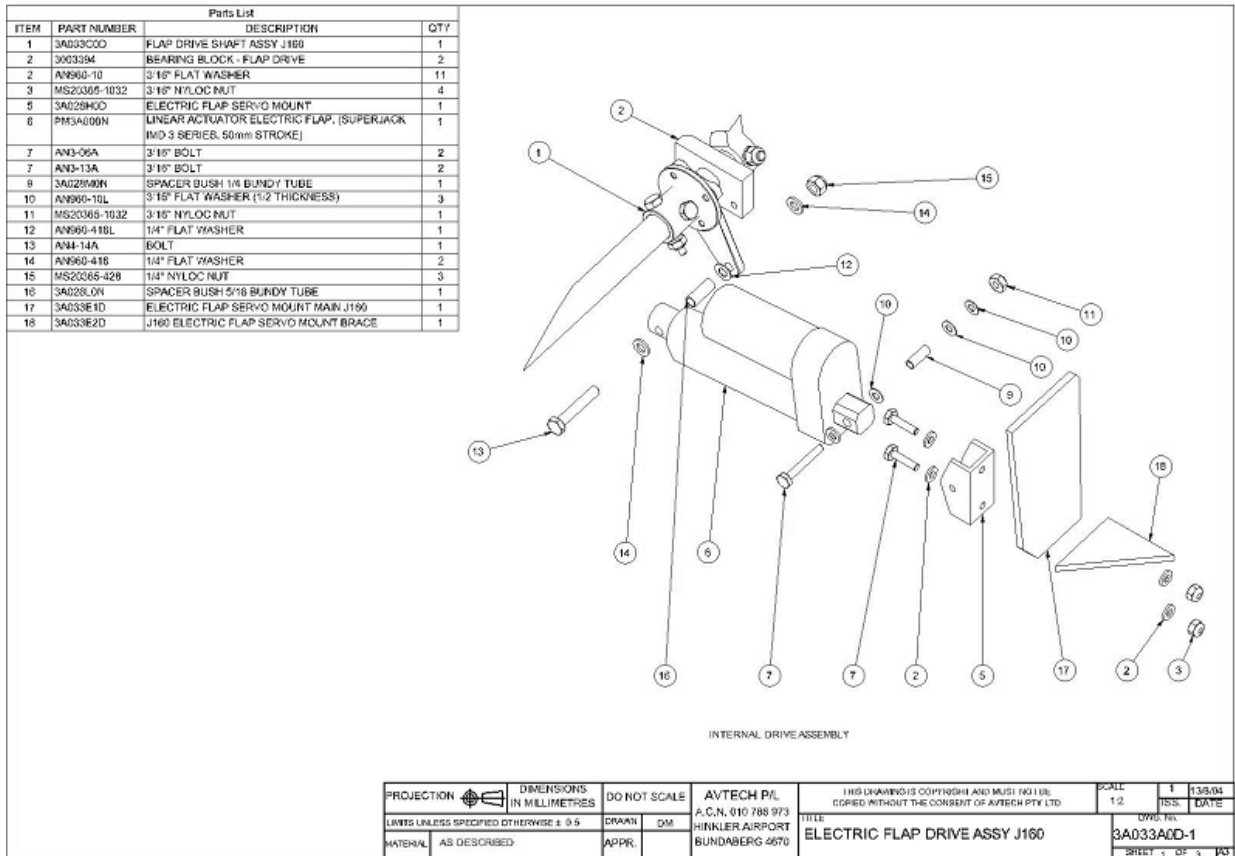
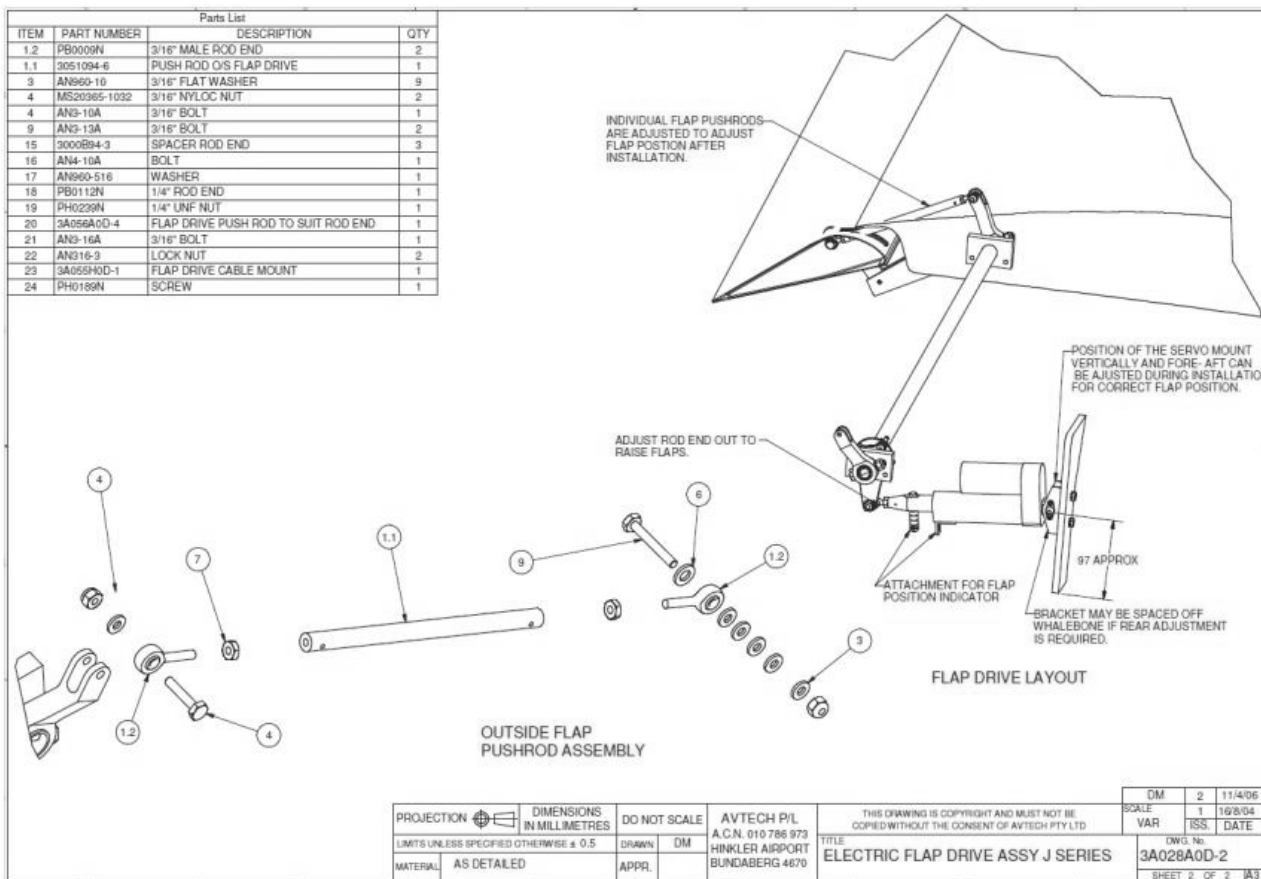

Figure 66 – Flap Controls – Sheet 1 (Fibreglass Motor Mount)
Figure 72 – J200 Family Electric Flap System Sheet 2
- Drawings of the systems are shown as Figure 66 through to Figure 72